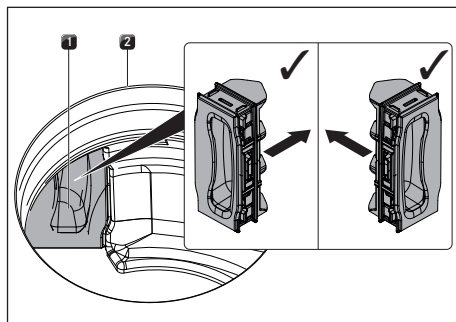

Fig. 8.10 Inserting the filter replacement cover
- Inside the inlet opening push the filter replacement cover until it comes to a stop in the filter housing opening (to insert the filter replacement cover see Fig. 8.10).